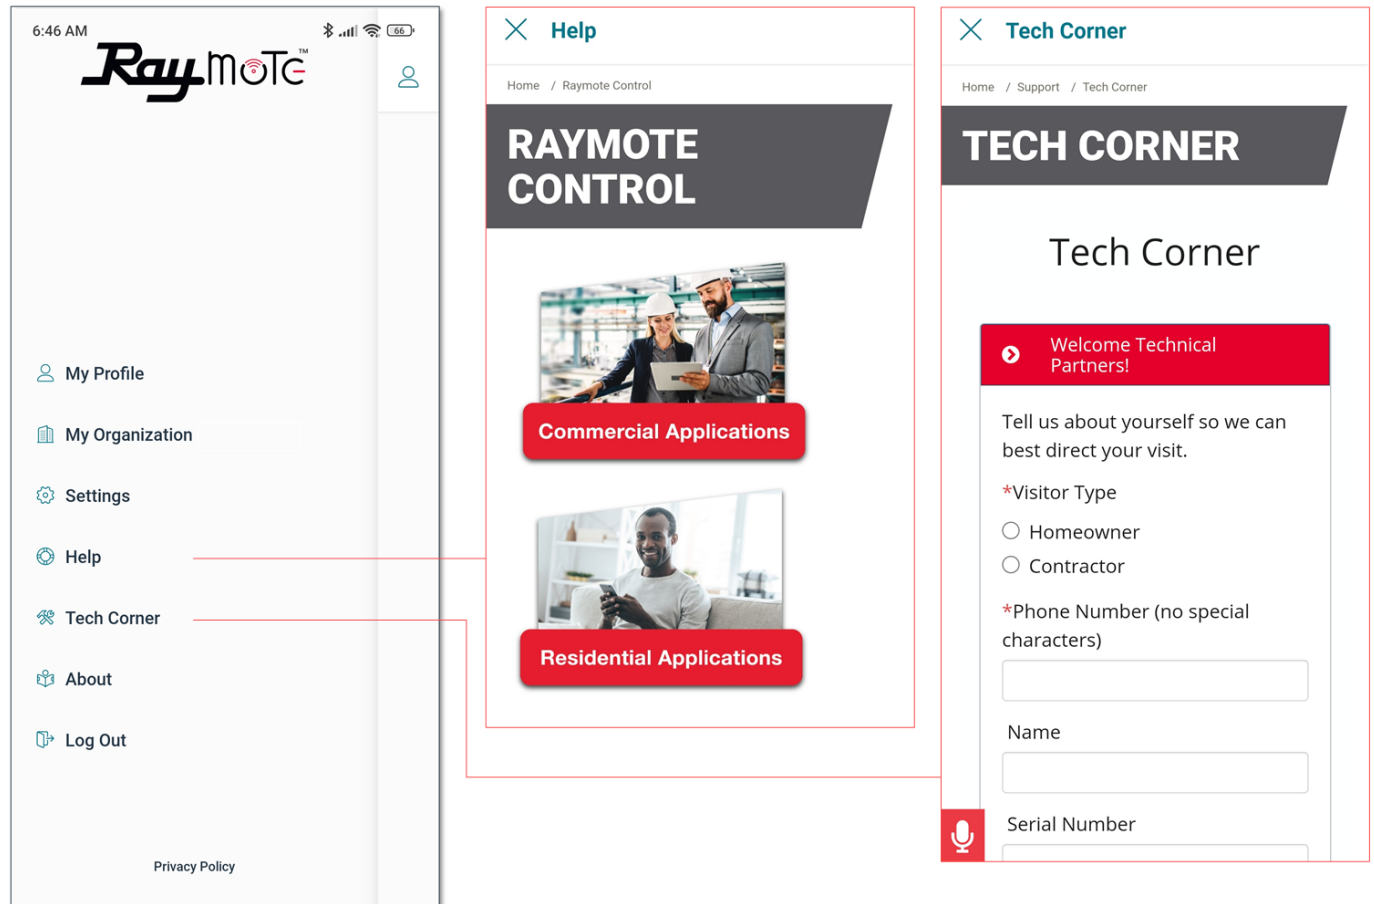

Figure 88. Help and Tech Support
- In-App access to Raypak Tech Corner collection. You can find here detailed instructions for Raypak products and service kits. See Figure 88.